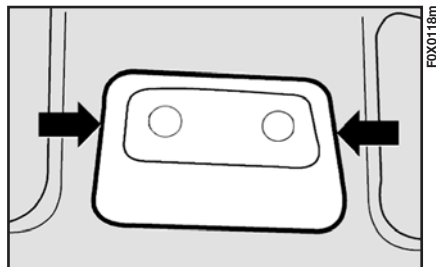

fig. 138
- using a screwdriver at the points indicated by the arrows fig. 138 remove the entire roof light unit;